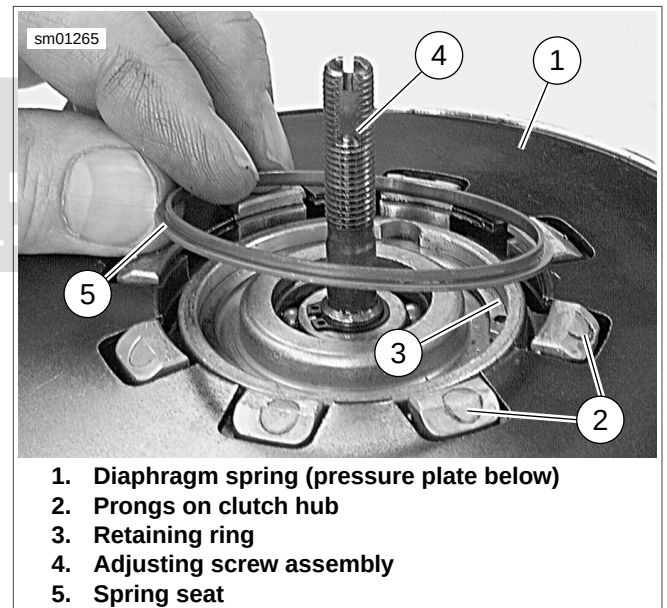

Figure 5-17. Spring Seat Installation
11. See Figure 5-17. Align square openings of pressure plate and diaphragm spring (1) so the assembly can be installed over prongs of clutch hub (2). Place assembly of spring seat (5), retaining ring (3), diaphragm spring, pressure plate, adjusting screw components (4) and compressing tool onto clutch hub and against clutch pack (28, Figure 5-11).